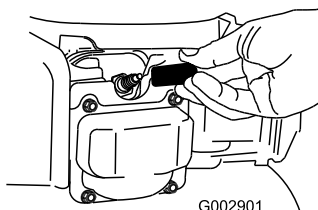

Figure 30
2. Disconnect the spark-plug wire from the spark plug (Figure 30) before performing any maintenance procedure.